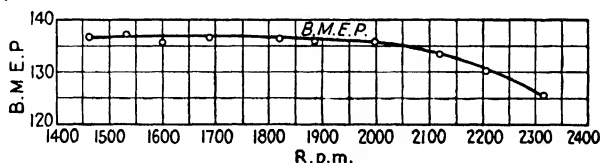

Fig. 271.—Graph of B.M.E.P. for Jacobs aircraft engine.
9. The graph in Fig. 271 shows how the B.M.E.P. keeps changing with the r.p.m. Complete the table of data in your own notebook from the graph.